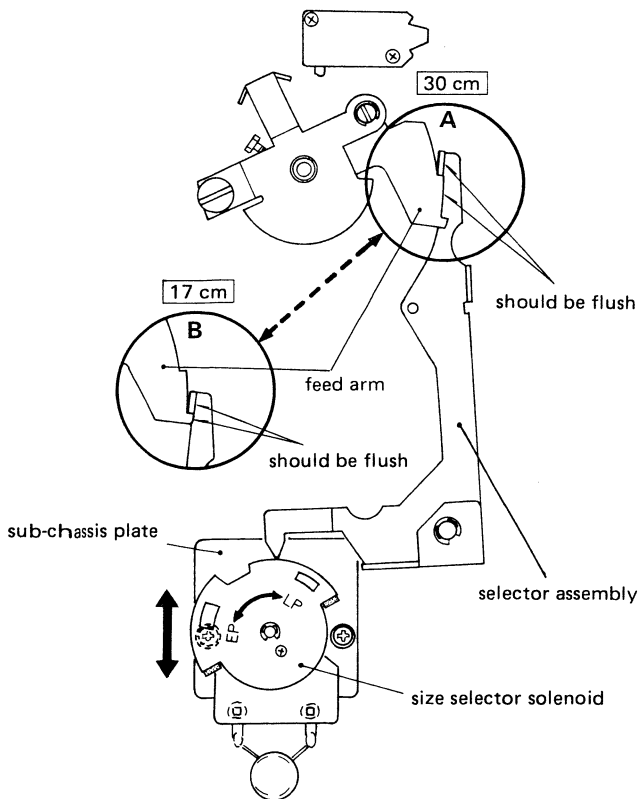

Fig. 4-8
7. Adjust the sub-chassis plate position in either direction as shown by the arrow so that the relation of the position between the selector assembly and the feed arm is that as shown at (A) in Fig. 4-8.
10. Check that the relationship shown at (B) in Fig. 4-8 is obtained (if correct for 30-cm size, adjustment should not be necessary).